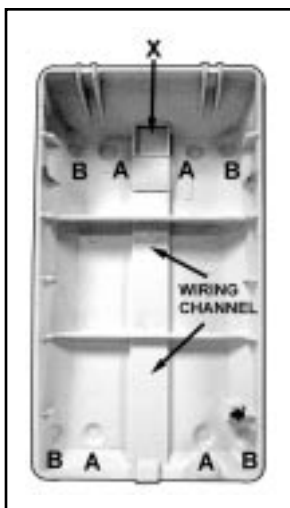

Figure 2. CASE BACK
3. Breakout desired mounting & entry holes. Refer to Figure 2. Knockout holes "A" in the base are for normal surface mounting on a wall. Knockout holes "B" are for corner mounting. Also break out the wire entry hole at this time marked X in Figure 2.